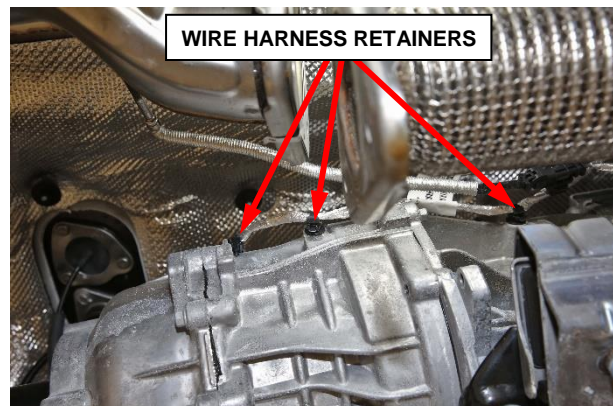

Figure 19 – Wire Harness Retainers
23. Release the wire harness retainers from the transfer case (Figure 19).